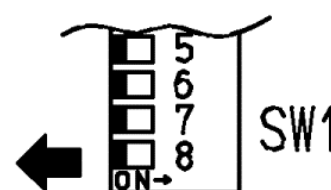

Fig. 5
16. Move switch No. 8 of SW1 to 'OFF' position. (Fig. 5)